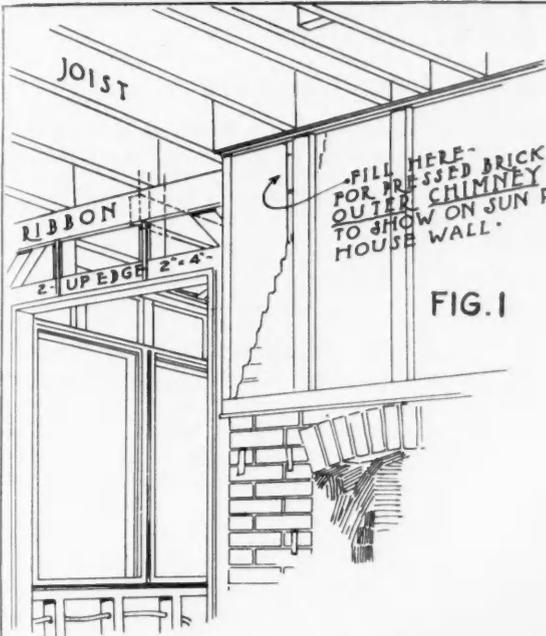

FIG. 1
At the top of the opposite page there are two figures, Figs. 1 and 2, which contain a point or two I wish to emphasize. Many living porches are built so as to throw the chimney between two French doors. Perhaps there is no happier arrangement. But in doing this faulty construction sometimes develops. A wall split by a chimney is not always of the strongest, and two large and additional openings do not serve to strengthen the wall. A lack of bound-up strength in the house wall next the porch may play havoc with the house part as well as the addition.
- FIG. 1 FRAMING PORCH CEILING, INSIDE.